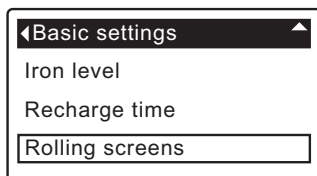

FIG. 49
3. Press the SELECT (O) button to display the Basic settings menu (See Figure 49).
7. To un-select a screen, make sure its name is highlighted in a box. Then press the SELECT (O) button. The black square will disappear. Pressing SELECT (O) again makes the black square reappear and re-selects the highlighted item. At least one screen must be selected/highlighted.
8. When selections are complete, exit this menu by pressing the LEFT (◀) button. The display will go back to the Basic settings menu (Figure 49).